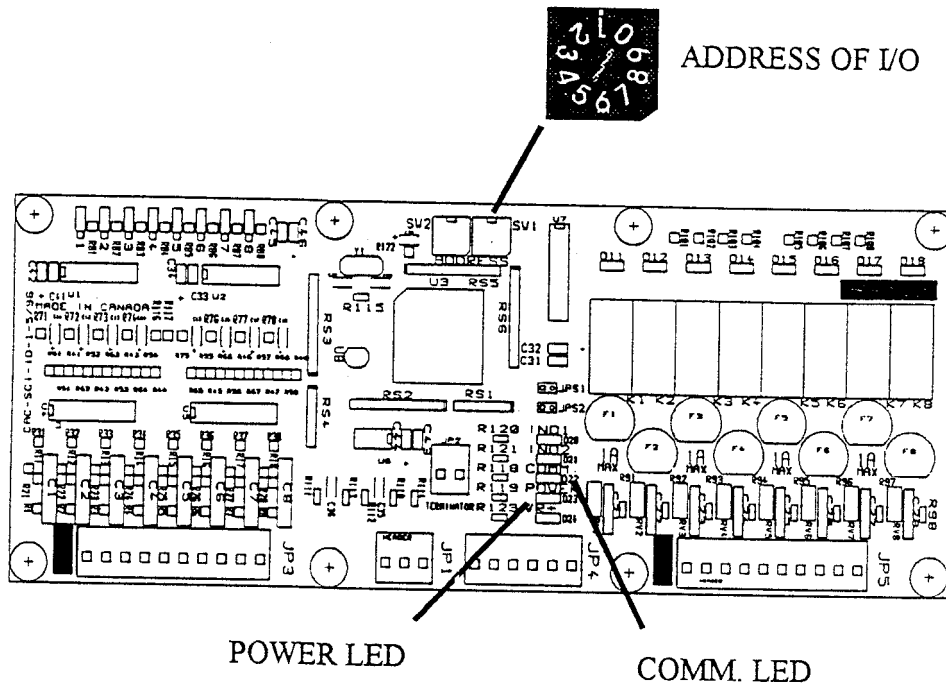

FIGURE 5.5 , I/O LED'S
- 2 ADDRESS DUPLICATION WITH OTHER I/O BOARDS. (FIGURE 5.5)
ADDRESS DUPLICATION WITH OTHER I/O BOARDS. (FIGURE 5.5)